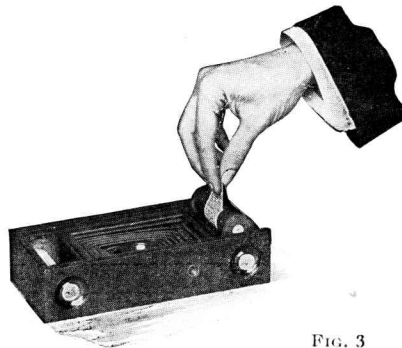

FIG. 3
6. Pull out spool pin and winding key, and lift out roll of film as shown in Fig. 3.
12. Having filled Solution Cup, lower Transferring Reel into Cup, with end containing cross-bar up (Fig. 3). Let reel slide down slowly. The total length of time for development is twenty minutes. Allow development to proceed for about two minutes with the cover of the solution cup off.